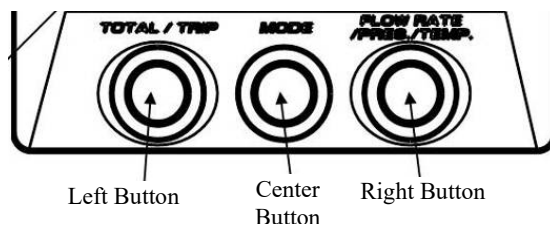

Fig. 8-1. Button Arrangement
- 3) See Figure 8-1 for the arrangement of "Left Button", "Center Button", and "Right Button."